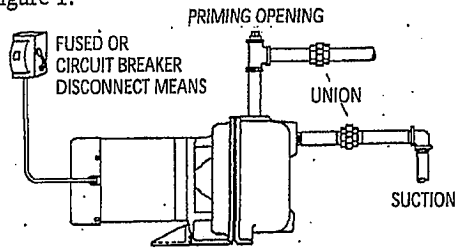

Figure 1
- Install a tee at the discharge connection of the pump. The top opening of the tee is required for initial priming. See Figure 1.
- Prime pump by filling pump and piping through opening in top of tee with clean water. See Figure 1.